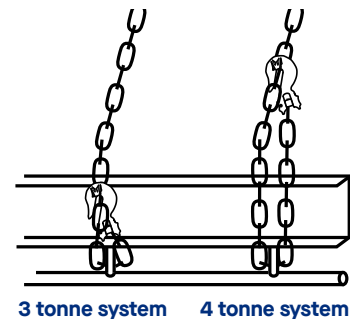

Fig.4.2: Hooking the chain back on itself **above** the coaming rail maintains a 4 tonne system.
- The chain should be hooked to the chain back **above** the coaming rail where possible. If the chain is hooked back onto itself **below** the coaming rail it is de-rated to 3 tonnes. (Fig.4.2)